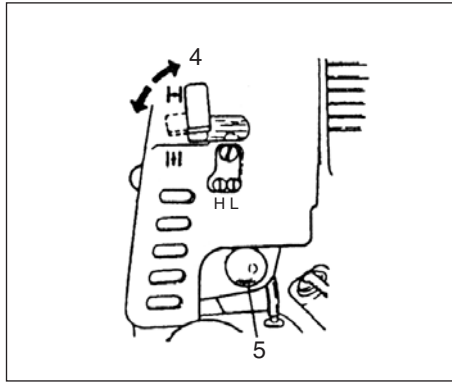

Fig.2-3
\*Push priming bulb (5) several times so that fuel flows through return pipe (if so equipped)(Fig. 2-3)
2. With the safety trigger (2) pressed (if so equipped), pull throttle trigger and push throttle lock (3), then slowly release the throttle trigger first, then the safety trigger. This will lock the throttle in starting position.
(Fig. 2-3)